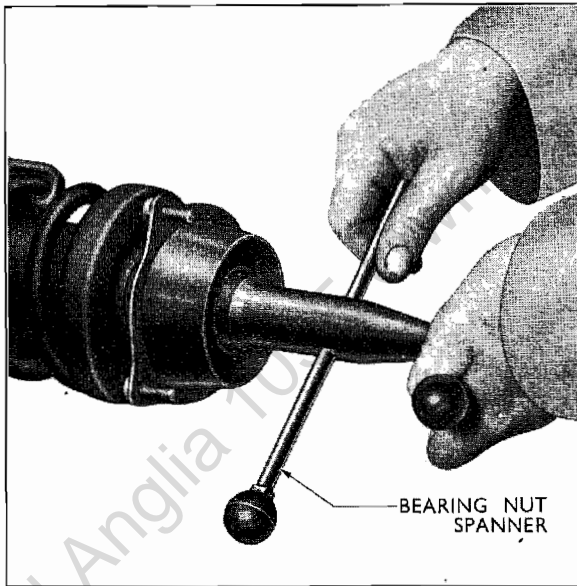

Fig. 10
1. Unscrew the self-locking nut, which retains the upper thrust bearing, using Tool No. P.5025, as shown in Fig. 10.
16. Replace the thrust bearing retaining locknut, using Tool No. P.5025, as shown in Fig. 10.